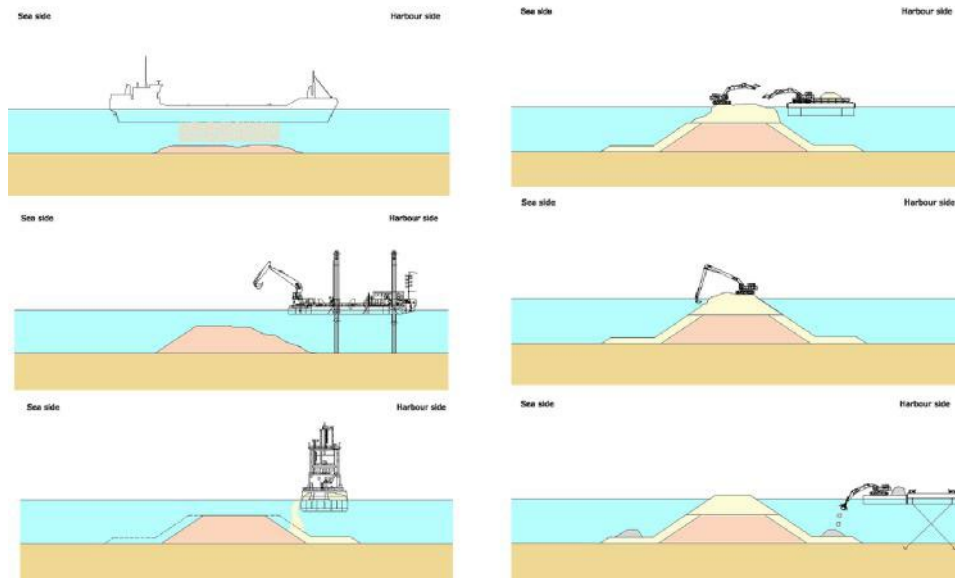

Figure 2 Example of construction stage sketches
- Make sketches of the most important construction stages, like the ones shown in Figure 2. Show the equipment used in each stage and give a very brief explanation (in one or two lines) of what happens in that stage. You do not have to work out your sketches as detailed and ‘professionally looking’ as in Figure 2, it is allowed to make sketches by hand. Additionally, you do not need to
- Make a table of all materials used in your cross-section and calculate the required volume for each material using the dimensions of your drawing; measure the length of your breakwater section from the drawings in the Case Description and assume that it has a constant depth. Tip: If you draw your cross-section at the average seabed level of your section, you will get a very accurate estimate of the total volume. Round off your numbers to practical values and ensure you use practical units, so rock in tons, concrete armour in number of units ("pieces" or pc). Describe the source of your material (e.g. "local quarry", provide location) and the equipment you want to use to transport this to the project site. See Figure 2 as an example.